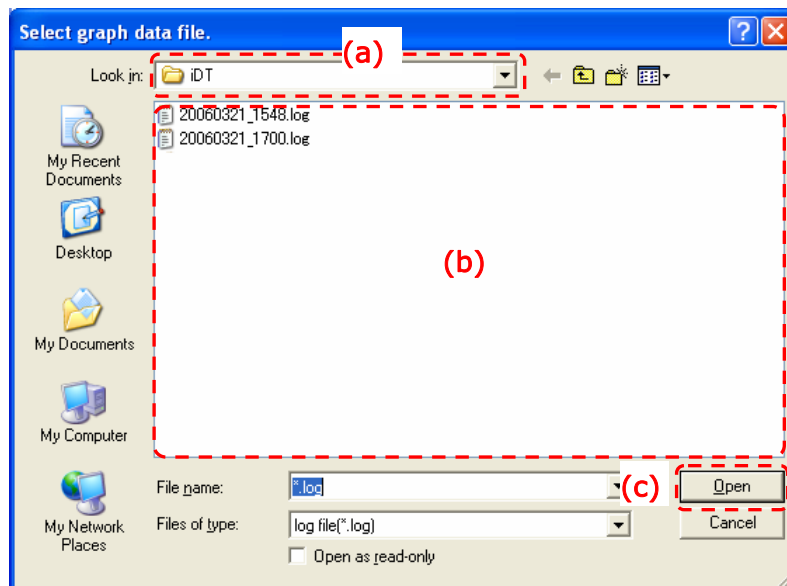

Fig. 7-1-1
To change folders, use the folder selection drop down box (Fig. 7-1-1 (a)) and select the folder containing the log file you wish to open.
- (3) From the file list (Fig. 7-1-1 (b)), select the log file you wish to open.
- (4) Press the **[Open]** button (Fig. 7-1-1 (c)).